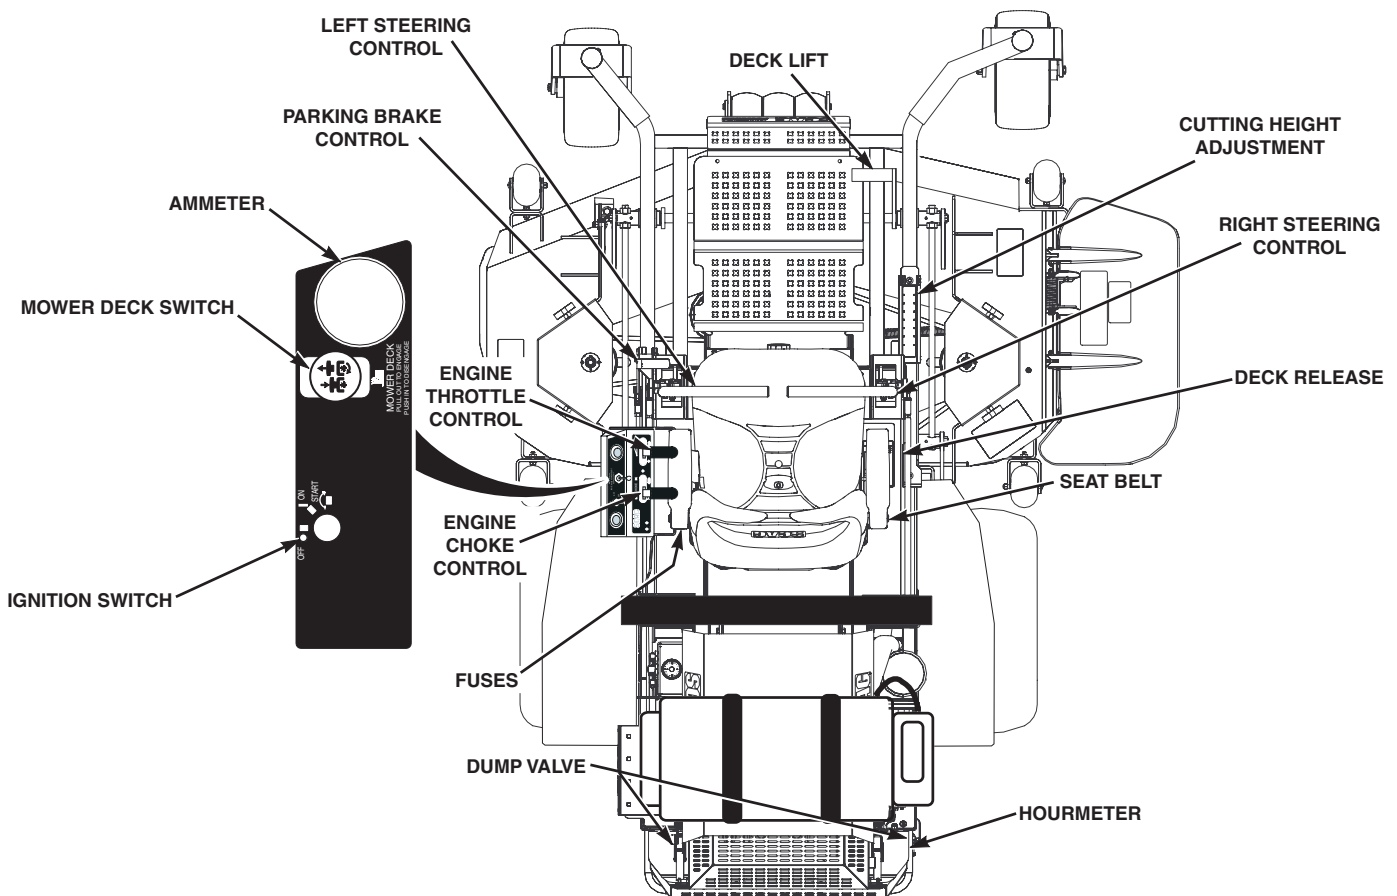

Figure 4-1. Controls and Instruments
1. **Ignition Switch (Figure 4-1).** The ignition switch is used to start the engine and has three positions; OFF, ON, and START.
2. **Mower Deck Switch (Figure 4-1).** Used to engage and disengage the mower drive system. Pulling up on the switch will engage the deck drive. Pushing down on the switch will disengage the deck drive.
3. **Engine Choke Control (Figure 4-1).** Used to start a cold engine.
4. **Engine Throttle Control (Figure 4-1).** Used to control the engine speed. Pushing the lever forward increases engine speed. Pulling the lever back decreases engine speed. Full back position is the IDLE position. Full forward is the cutting position.
5. **Ammeter (Figure 4-1).** Indicates the condition of the charging system. When the engine is running, in normal operating conditions, the needle should be in the positive end of the meter. If the needle is toward the negative end of the meter, this indicates a discharge condition and the machine should be taken in for service.
6. **Hourmeter (Figure 4-1).** Indicates the number of hours the engine has been operated. It only operates when the engine is running. Has preset maintenance reminders for engine and hydraulic system oil changes. Will start flashing scheduled maintenance 2 hours before preset time and continue flashing until 2 hours after. Automatically resets.
7. **Fuse Holders (Figure 4-1).** There are two 20 amp fuses that protect the mower's electrical system. To replace fuses, pull fuse out of the socket and install a new fuse.
8. **Left Steering Control (Figure 4-1).** Used to control the mower's left wheel when traveling forward or reverse.
9. **Right Steering Control (Figure 4-1).** Used to control the mower's right wheel when traveling forward or reverse.
10. **Parking Brake Control (Figure 4-1).** Used to engage and disengage the parking brakes. Pull the lever back to engage the parking brakes. Push the lever forward to disengage the parking brakes.
12. **Deck Lift Foot Lever (Figure 4-1).** Used to raise and lower the cutter deck. Push full forward to lock in the transport position.
13. **Cutting Height Adjustment (Figure 4-1).** Used to set the cutter deck at the desired cutting height.
14. **Deck Release Lever (Figure 4-1).** Used to lock the cutter deck in the transport position. Push the foot pedal forward and pull back on the release lever to release the cutter deck for normal mowing.
15. **Seat Belt (Figure 4-1).** Used to secure the operator. Seat belt must be worn at all times when the ROPS is in the upright and locked position.
16. **Seat Hold Down Release Latch (Figure 4-1).** Located behind the seat. Used to secure the seat in the operator's position. Release the latch to gain access under the seat.